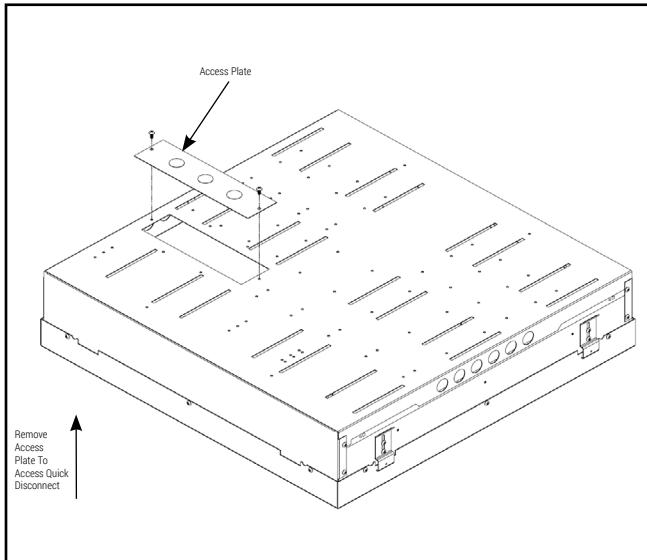

Figure 2.
3. Remove access plate to access quick disconnect. (Figure 2)